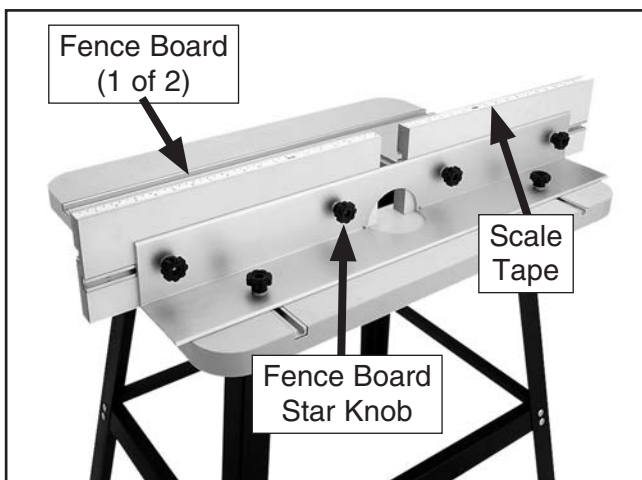

Figure 7. Fence boards secured to the fence support.
- Slide the heads of (4) M8-1.25 x 25 hex bolts into the fence board T-slots, insert the bolts through the holes in the fence support, then secure the fence boards with (4) 8mm flat washers and M8-1.25 star knobs, as shown in **Figure 7**.